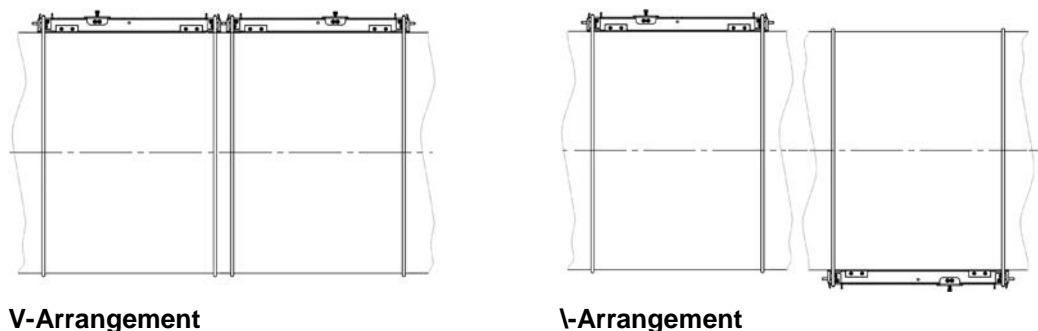

Fig. 10-71 Mounting rails with different arrangements
- **V-Arrangement:** Both clamp-on sensors are mounted on the same side of the pipe and are fixed with one or two mounting rails, depending on the pipe diameter (following table) (Fig. 10-71 Figure 1).
- **\-Arrangement:** The clamp-on sensors are each mounted in a mounting rail on opposite sides of the pipe (Fig. 10-71 Figure 2).